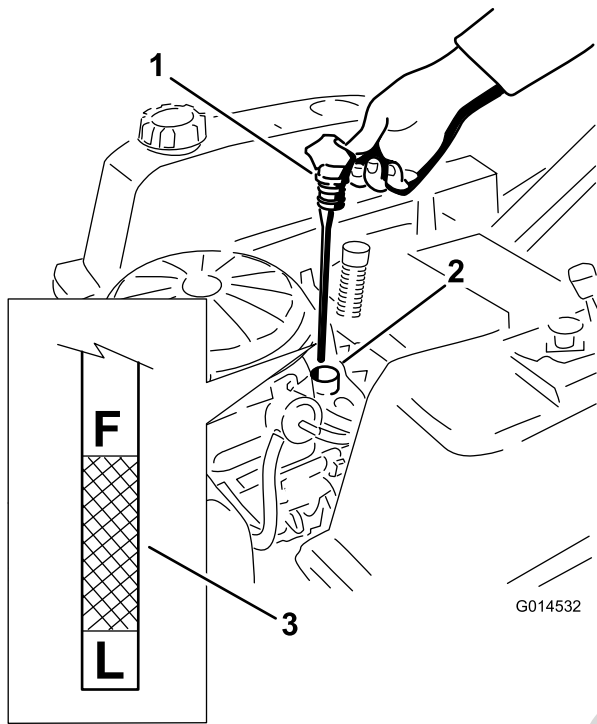
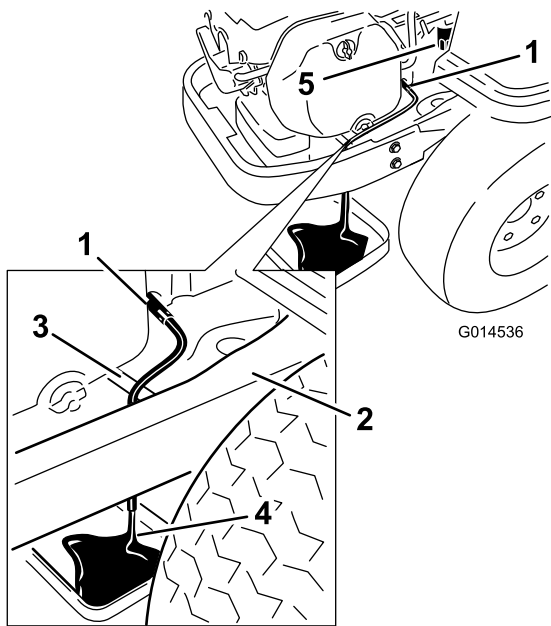

Figure 29
Figure 31
4. Pull and remove the oil fill cap/dipstick; wipe oil off. Reinsert the dipstick and push firmly into place (Figure 29).
- Remove the dipstick and check the oil level. (Figure 29).
- Place a pan underneath machine directly below the drain hose as shown in Figure 31.
8. Turn the drain valve 1/4 counter clockwise to open and allow the oil to drain (Figure 31). Remove the oil fill cap/dipstick (Figure 29).
10. Remove the old filter and wipe off the mounting pad (Figure 31).
11. When oil has drained completely, close the oil drain valve. Remove the oil drain hose and wipe up any excess oil on the frame (Figure 31).
15. Slowly pour approximately 80% of the specified oil into the filler tube (Figure 29).
16. Install the oil fill cap/dipstick and push firmly into place (Figure 29).
17. Check the oil level (Figure 29); refer to Checking the Oil Level.
19. Install the oil fill cap/dipstick and push firmly into place (Figure 29).